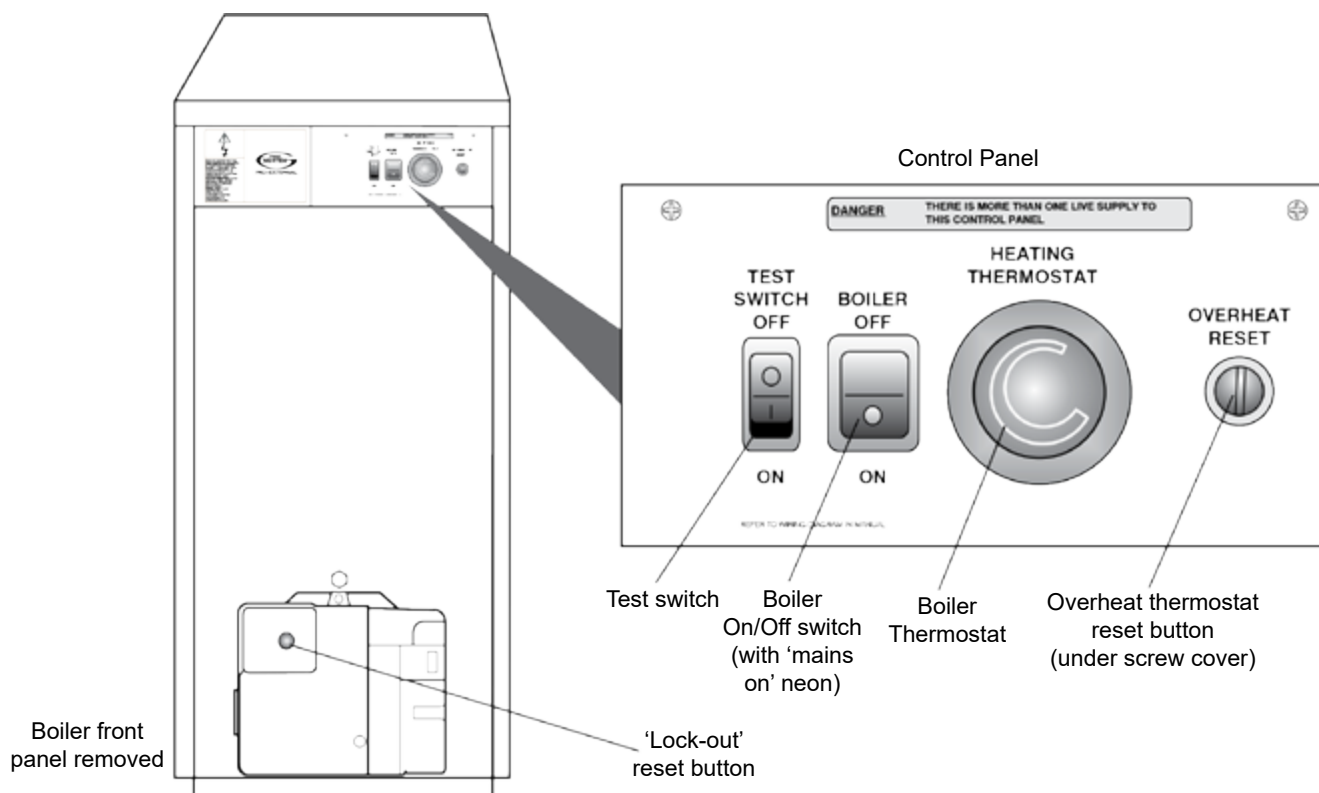

Figure 1-1: Vortex Pro External boiler control panel and reset button
Grant Vortex Outdoor Modules and External boilers have a 'mains on' neon, see Figure 1-1, which lights when the boiler is switched on.
To gain access to the boiler controls, remove the front casing door by turning the handle at the bottom anti-clockwise, pulling the door out at the bottom and withdrawing it from the casing to reveal the boiler controls as shown in Figure 1-1.
4. Check if the burner 'Lock-Out' reset button on the burner body (refer to Figure 1-1 for location) is lit.
Refer to Figure 1-1 for the location of the control panel within the boiler casing and for the details of the control panel.
To reset the overheat thermostat, unscrew the small plastic cap marked "overheat reset" (see Figure 1-1), press the button and replace the cap.
A test switch is fitted to the control panel (see Figure 1-1) to allow the Service Engineer to test-fire the boiler without requiring access to the inside of the property.